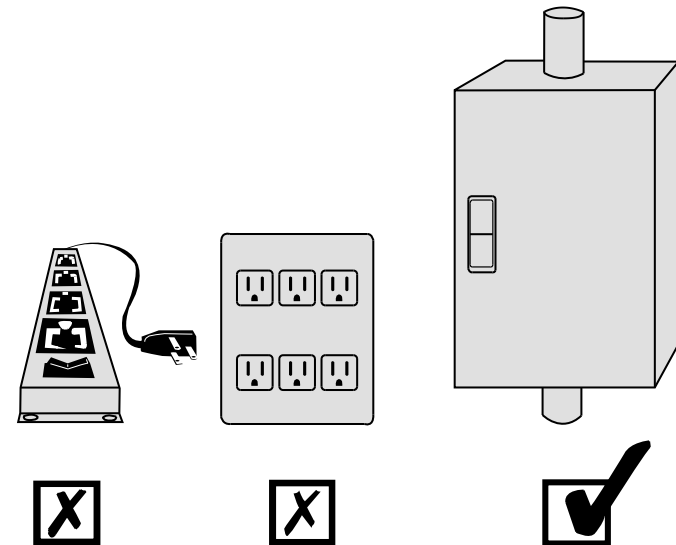

Figure 10
2. Please connect UPS input terminal to utility power in nearby switchboard. (Figure10)